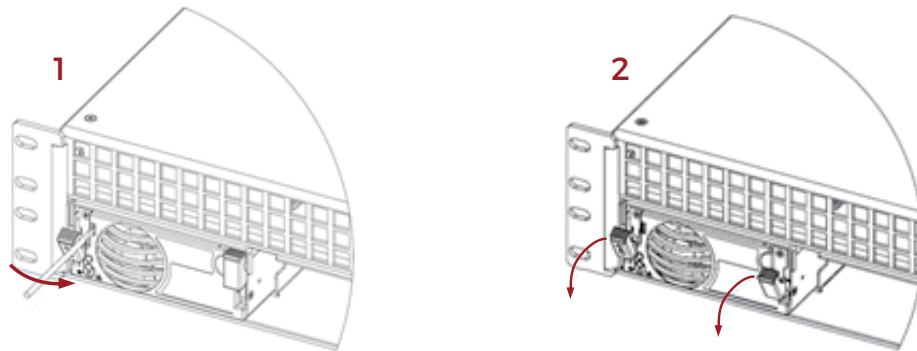

Figure 7-4 Replacing an XPGe12.48 Rectifier
1. Insert a flat screwdriver into the rectangular opening next to the left handle to unlock it, Figure 7-4 (1).
2. Once unlocked, pull both handles down and remove the rectifier from the slot, Figure 7-4 (2).